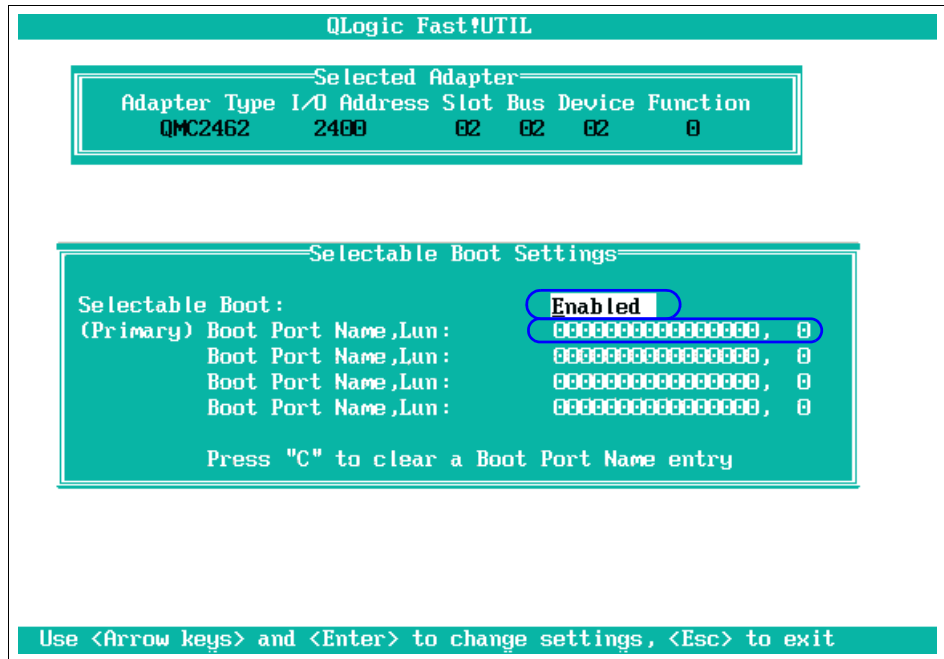
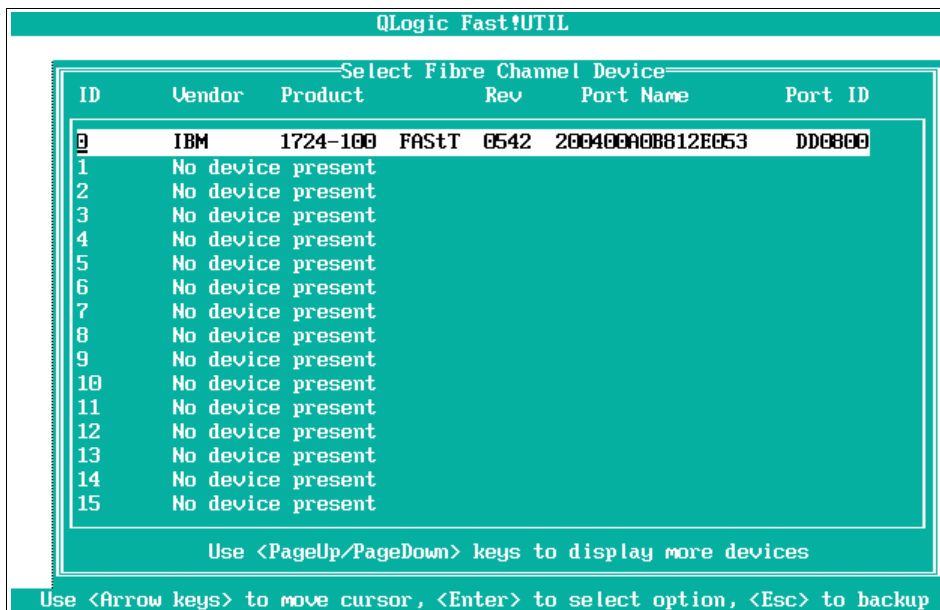

Figure 9-9 QLogic Fast!UTIL window
Figure 9-10 Select the boot device
7. Select “Selectable boot settings” and press Enter. You will see a window similar to Figure 9-9 on page 285.
STOP: At this point, go to the zoning instructions now before proceeding to step 9. The point of this step is not to select the boot LUN quite yet; rather, it is just to register the HBA with the fabric. We will select the boot LUN later since we have not defined it yet. Now, you should start and complete the steps in 9.3.3, “Configure the QLogic Fibre Channel Switch Module” on page 288, at which point you will continue with the window shown in Figure 9-10.
- Once you have completed your Zoning steps in “Configure the QLogic Fibre Channel Switch Module” on page 288 and “Storage” on page 303, you will return here. You should see the window shown in Figure 9-9 on page 285. Select **Primary Boot Port Name, Lun** and press Enter. You will see a window similar to Figure 9-10. Select the boot storage device’s WWPN and press Enter. Now, you are allowed to select a specific boot LUN.